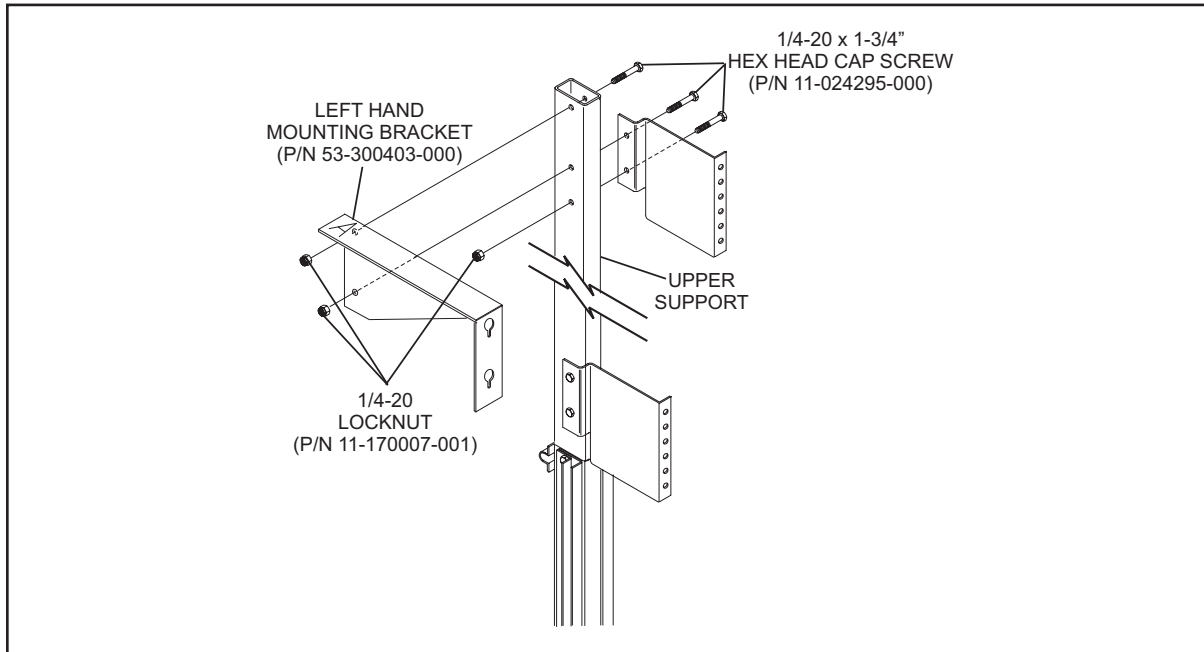

Figure 21
1. Install the first support assembly "A" projection screen mounting bracket and upper graphic standoff. Refer to *Figure 21*.